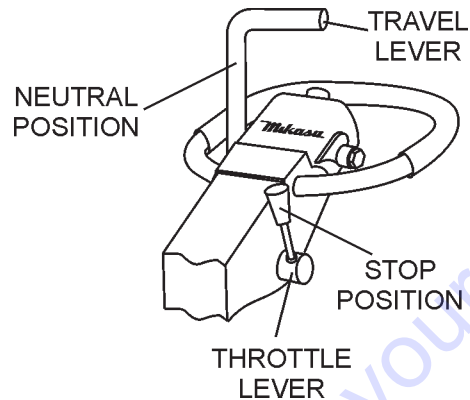

**Figure 19. Travel Lever**
3. To make the compactor move in the forward direction push the travel lever ( Figure 19) forward.
4. To make the compactor move in the reverse direction pull the travel lever ( Figure 19) backwards.